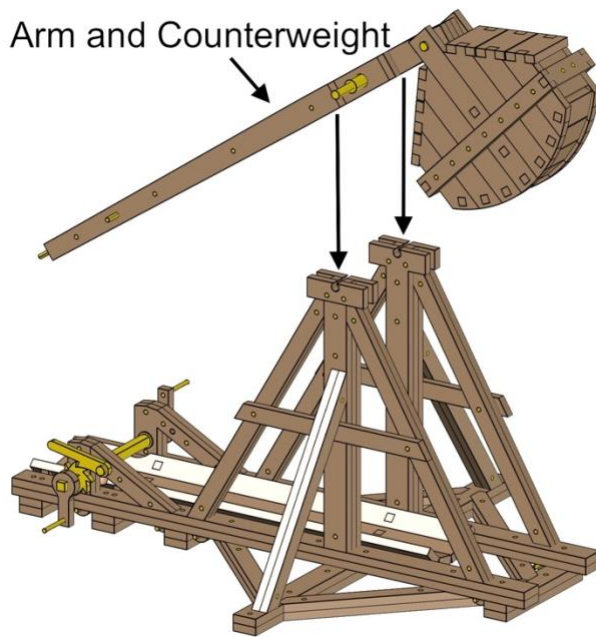

Fig. 90
- Align parts exactly as shown in *Fig. 90*.